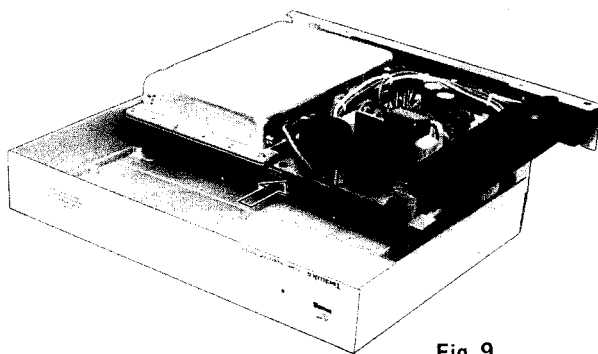

Fig. 9
5. Hold the chassis and pull it backward. Then, the cabinet can be removed from the printed circuit board and power supply box. (Refer to Fig. 9)